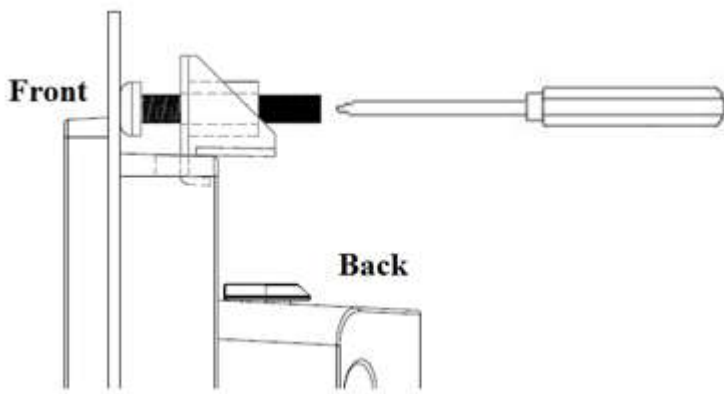

Figure 2.31 Fasten the hook bracket
4. Tighten the screws to affix the panel PC in place (Figure 2.31).